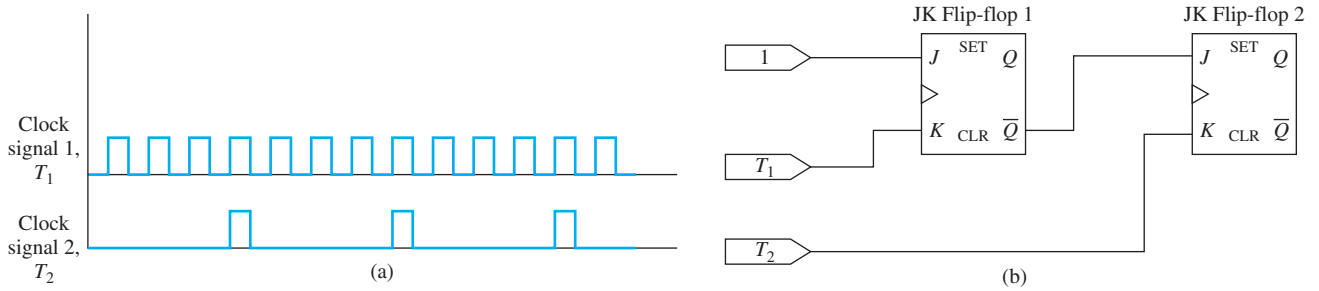

FIGURE P10.63 (a) Clock signal input for Problem 10.63; (b) logic circuit for Problem 10.63.
10.63 (H) Figure P10.63(a) shows the sequence of clock signal for both clock inputs, T_1 and T_2 , while Figure P10.63(b) shows the JK flip-flop circuit. What is the output, Q_2 of JK flip-flop 2 immediately before the second trailing edge of the clock signal 2, T_2 ? Both the initial outputs Q_1 and Q_2 are zero. Assume that the input from the clock signal is 1 after the leading edge of the clock signal, and the input becomes 0 after the trailing edge of the clock signal. Also, assume a clock signal of 1, T_1 starts at the leading edge.